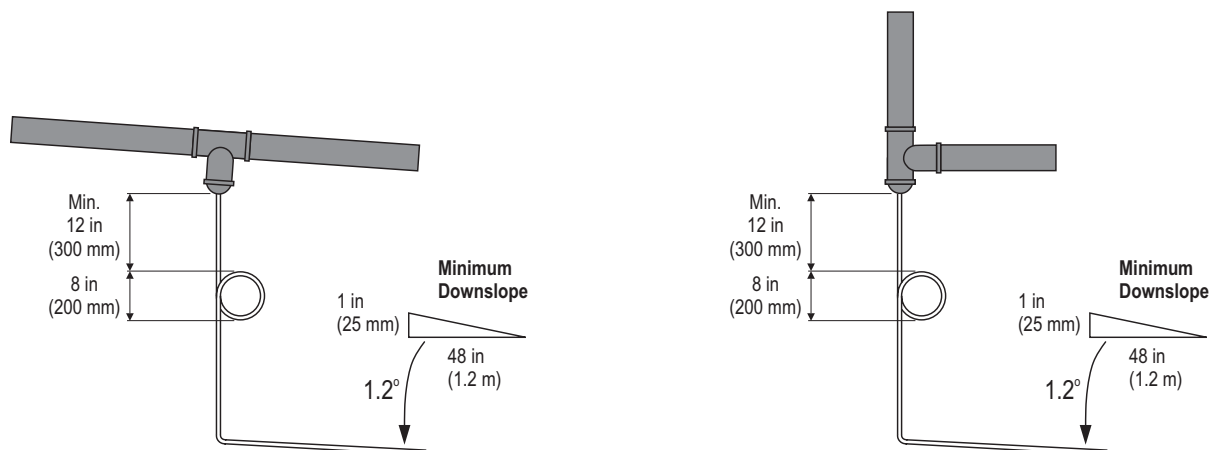

Figure 19: Condensate Drain Lines
- ☐ Condensate lines must connect into full size "Tee" fittings in the steam line. Refer to Figure 19.